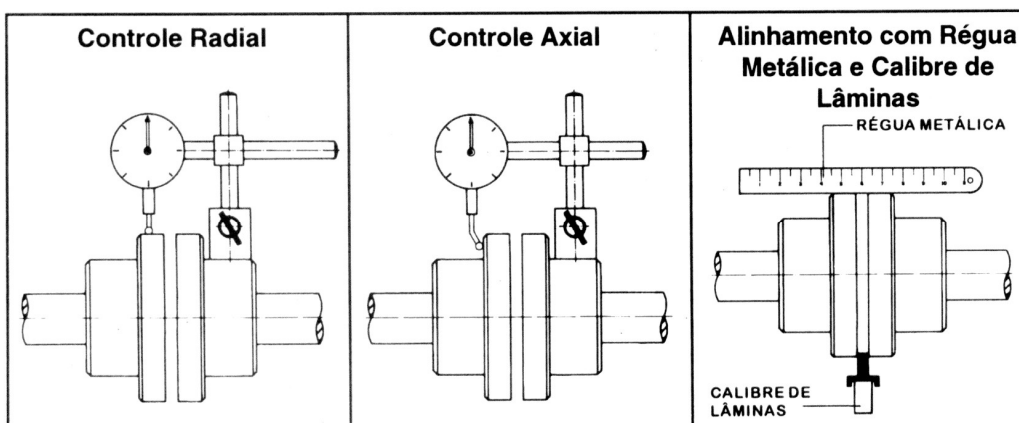

Figura 7
- ✓ Both the axial and radial alignment should remain within the tolerance of 0.15 mm, following the clearance between the faces of the tips of the axes of the pump and the motor drive according to the manufacturer's specification of the coupling, see figura 7.